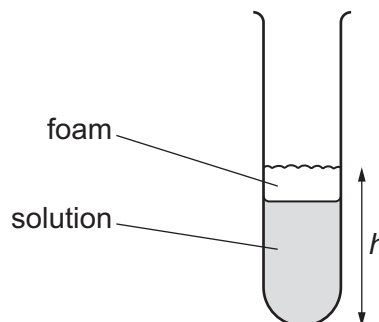

Fig. 1.1
- At 2 minutes, measure the height h in your boiling tube, as shown in Fig. 1.1.